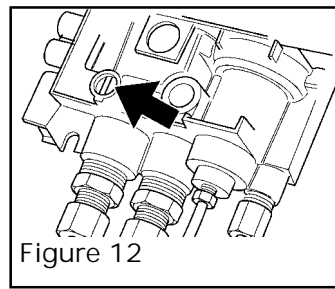

Figure 12
11. Remove the control unit adjustment screw. Replace with the LPG screw marked 0.95. See figure 12.